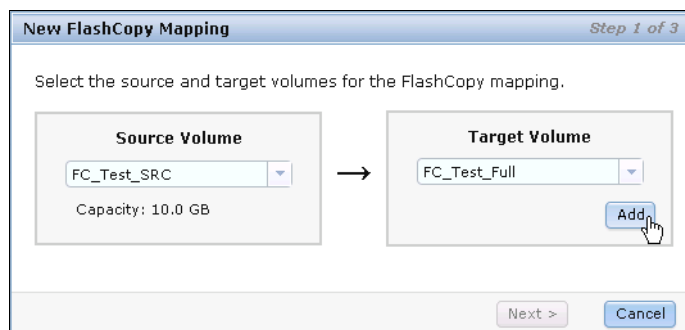

Figure 9-26 Select the target volume
- You need to choose the target volume for the source volume you selected. Select the target volume in the drop-down menu in the right pane of the window and click **Add** (Figure 9-26).